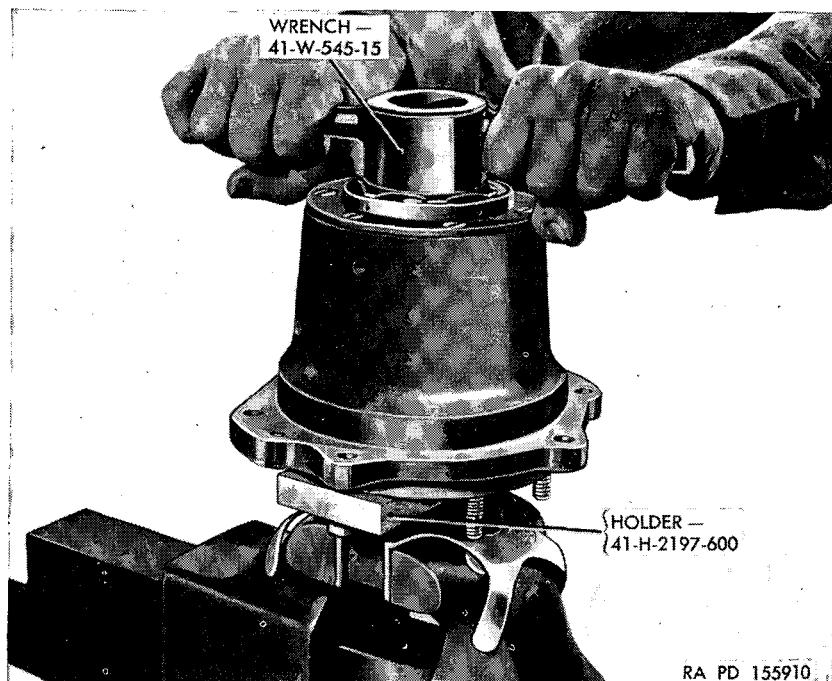
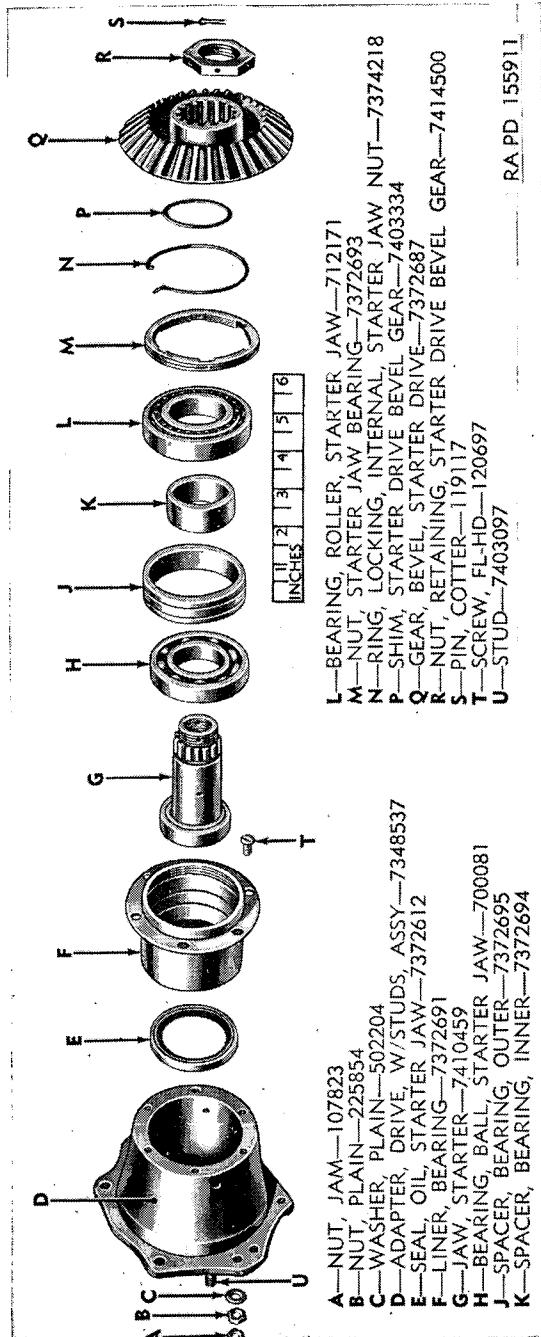
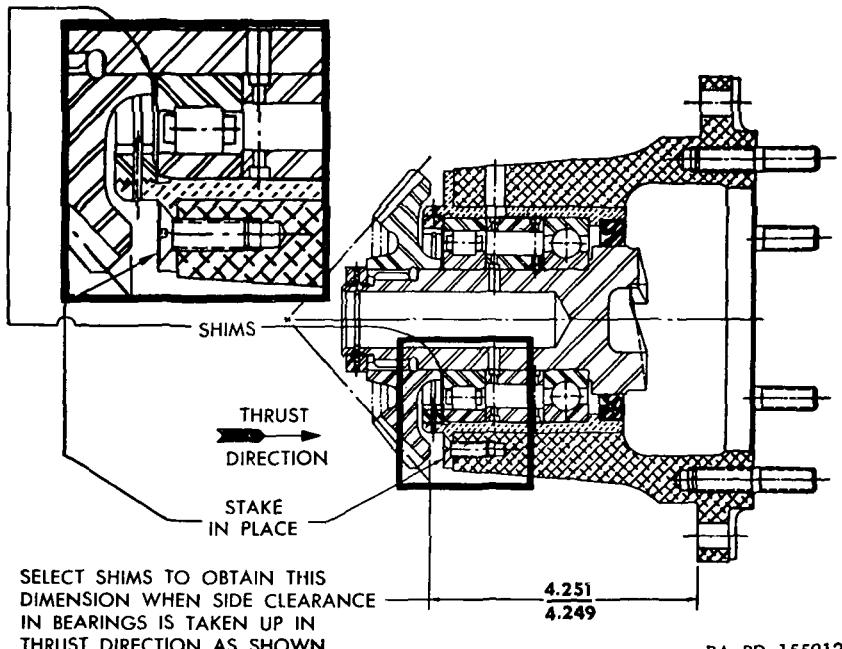

Figure 40. Tightening starter jaw bearing retaining nut.
Figure 41. Starter drive assembly—exploded view.
Figure 42. Shimming starter drive bevel gear.
- (c) Place one of the impeller driven gear duplex ball bearings (H) on the splined end of the impeller driven gear with the thrust side (so marked) away from the gear end. Place the impeller driven gear inner and outer bearing spacers (J) and (K) on the thrust side of the bearing. Place the other half of the duplex bearing on the impeller driven gear with the thrust side engaging the inner and outer spacers. Center the outer spacer between the bearings to eliminate interference when inserting bearings and the impeller driven gear in the bushing-type bearings of the diaphragm.
- (d) Insert the impeller driven gear and bearing assembly in the accessory case diaphragm assembly (G) by tapping lightly with a soft hammer.
- (e) Install the impeller driven gear ball bearing retaining plates (L) with six drilled-hex-head bolts (GG) and safety wire.
- (f) Install one of the two snap rings (N) in the fan drive gear (T) and the other in the impeller drive gear (P).
- (g) Install two of the four impeller and fan drive gear roller bearings (M) on the fan drive gear and the remaining two on the impeller drive gear. These bearings have the same part number.
b. *Starter Drive Assembly* (fig. 41).
- (1) *Disassembly*.
- (a) Slip holder 41-H-2197-600 (fig. 40) over the starter
- (b) Remove the starter drive bevel gear retaining nut (R). Remove the starter drive bevel gear (Q) and its shim.
- (c) Remove the internal locking ring from the starter jaw bearing nut (M), and with wrench 41-W-545-15 (fig. 40), unscrew the nut.
- (d) Remove the holder 41-H-2197-600 (fig. 40) from the adapter.
- (e) Remove the six flat-head screws from the bearing liner (F). Press the liner out of the starter drive adapter with studs assembly (D).
- (f) Press the starter jaw (G), starter jaw ball bearing (H), starter jaw roller bearing (L), and the outer and inner bearing spacers (J) and (K) from the liner.
- (g) Press the starter jaw oil seal (E) from the liner.
(3) *Assembly (fig. 41).*
- (a) Press the starter jaw oil seal (E) in bearing liner (F) with the solid face to the starter side.
- (b) Press the liner in the drive adapter with studs assembly (D) making certain the oil holes of the liner and adapter are in alinement. Install the six flat-head screws (T) and stake them in place.
- (c) Press the starter jaw ball bearing (H), the outer and inner bearing spacers (J) and (K), and the starter jaw roller bearing (L) on the starter jaw (G). Center the outer spacer between the bearings to eliminate interference when the jaw and bearing assembly is inserted into the bearing liner. Press the jaw assembly into the liner and adapter.
- (d) Install holder 41-H-2197-600 (fig. 40) on the adapter. Clamp the holder in a vise.
- (e) Install the starter jaw bearing nut (M) with wrench
41-W-545-15 (fig. 40). Insert starter jaw nut internal locking ring (N).
- (f) Install the starter drive bevel gear shim (P) and the starter drive bevel gear (Q) on the starter jaw.
- (g) Install the starter drive bevel gear retaining nut (R); tighten and check the dimension shown in figure 42. Select shims to obtain this dimension.
- (h) Install cotter pin (S) in the bevel gear retaining nut.
- (i) Remove the assembly from the holder 41-H-2197-600 (fig. 40).